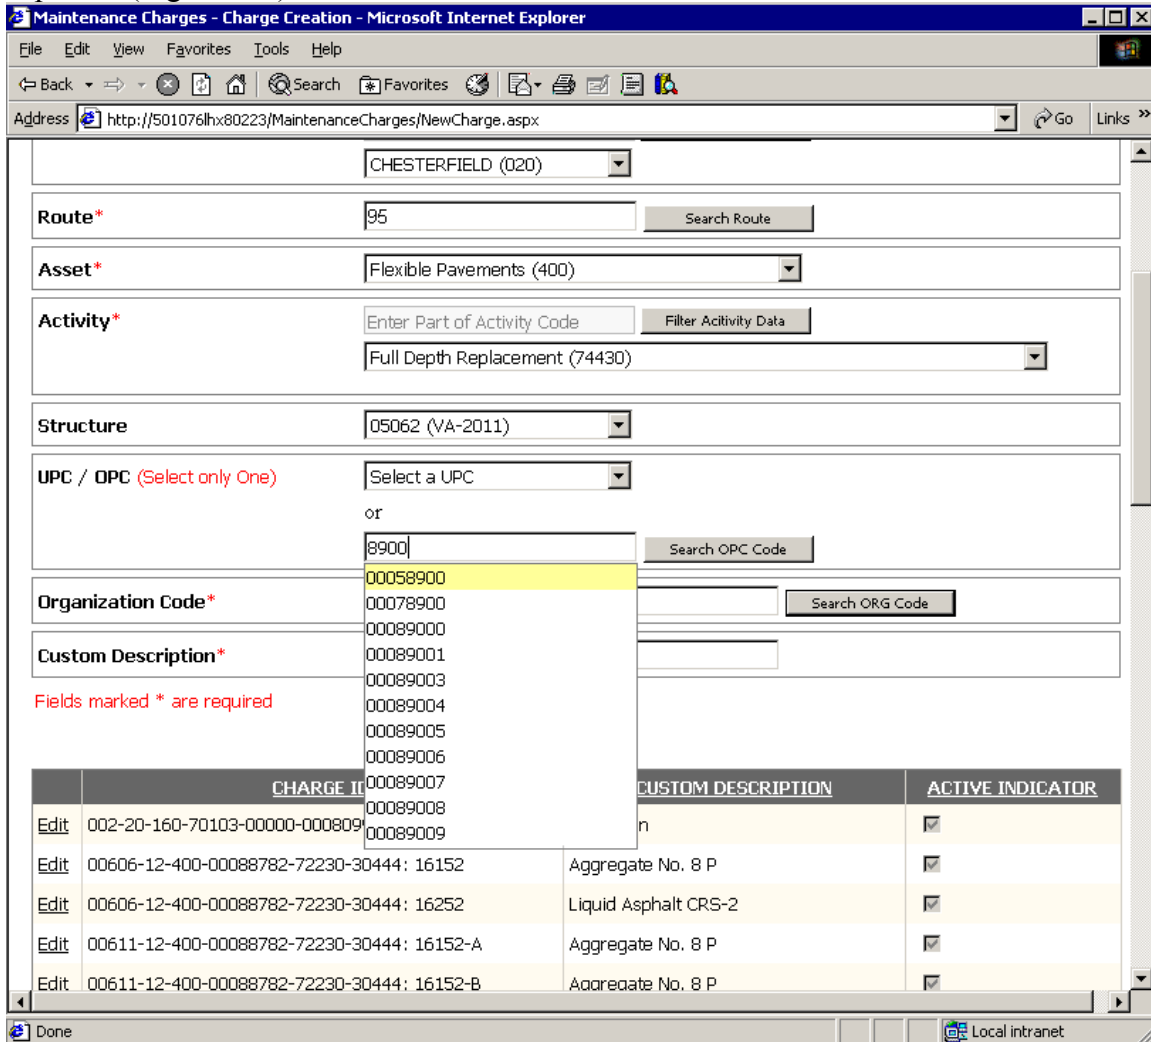
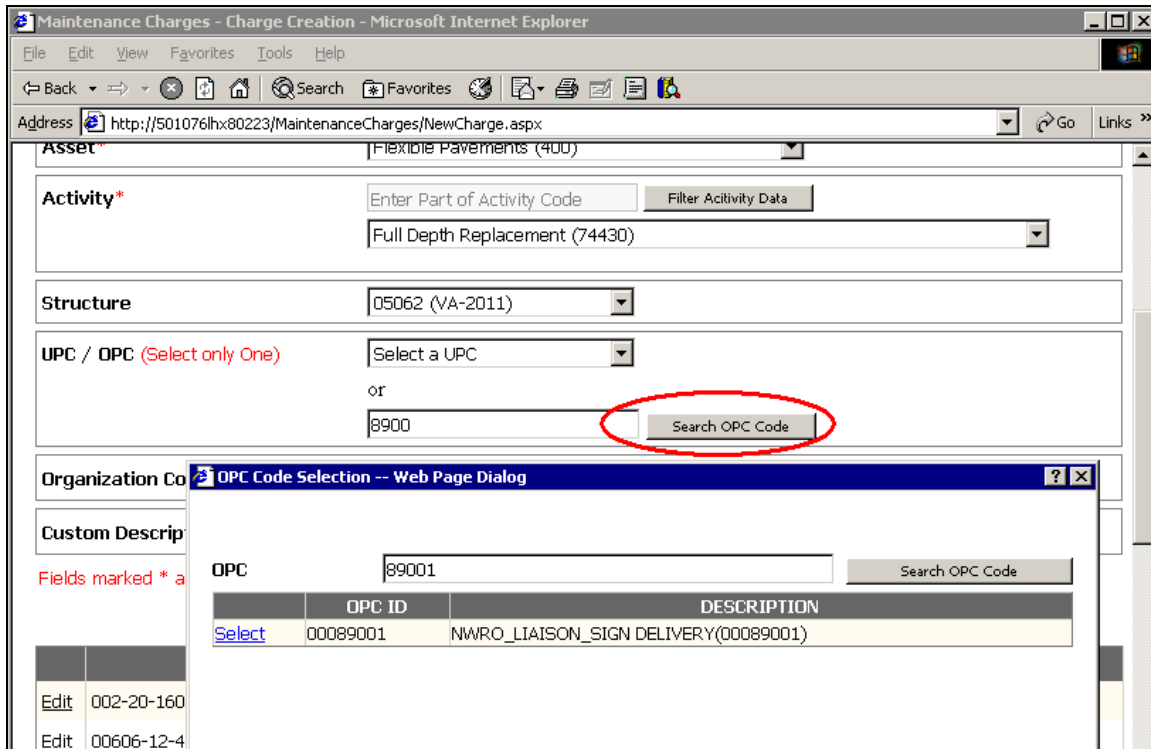

Figure 26
Figure 26a
Step 7: Select either UPC or OPC. Only one of the two needs to be selected. If both are selected from the dropdown lists then UPC is taken into consideration during the creation of the charge. If no UPC or OPC is selected, then 000000 will be the defaulted in the creation of the charge ID. (Figure 26) Using the filter, type in 2 digits of the OPC needed and the first 20 matching records will appear. The more digits entered the more refined the search results become. By selecting Search OPC, a full list of OPCs matching the search will appear to include OPC text descriptions. (Figure 26a)